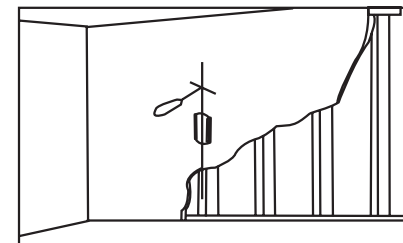
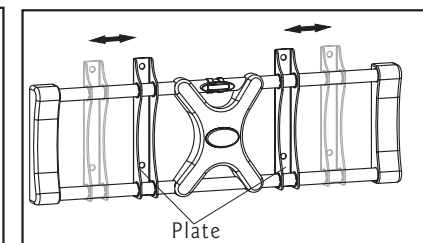

Fig 3b
Fig 3c
Using a awl or nail to make where the nails are located, as shown as Fig.3b. Distance between two nails for fixing wall mount must not less than 16". Slide the plate into position as required. (Fig.3c) Pre-drill these holes with a 5mm drill bit to at least 40mm in deep hole. Use wall mount as a template to mark the location of other three holes and drill the same holes. Please make sure these holes are level and eudipleural. Fix the wall mount to the wall with 4 long bolts(H) and washers(J) by Box wrench(5).
Using a awl or nail to make where the nails are located. Distance between two nails for fixing wall mount must not less than 16". Slide the plate into position as required. (Fig.3c) Pre-drill these holes with a 10mm drill bit to at least 50mm in deep hole. Use wall mount as a template to mark the location of other three holes and drill the same holes. Please make sure these holes are level and eudipleural. Insert wall anchors(I) into each of these holes. Attach the wall mount to the wall using 4 long bolts(H) and washers(J) by Box wrench(5).